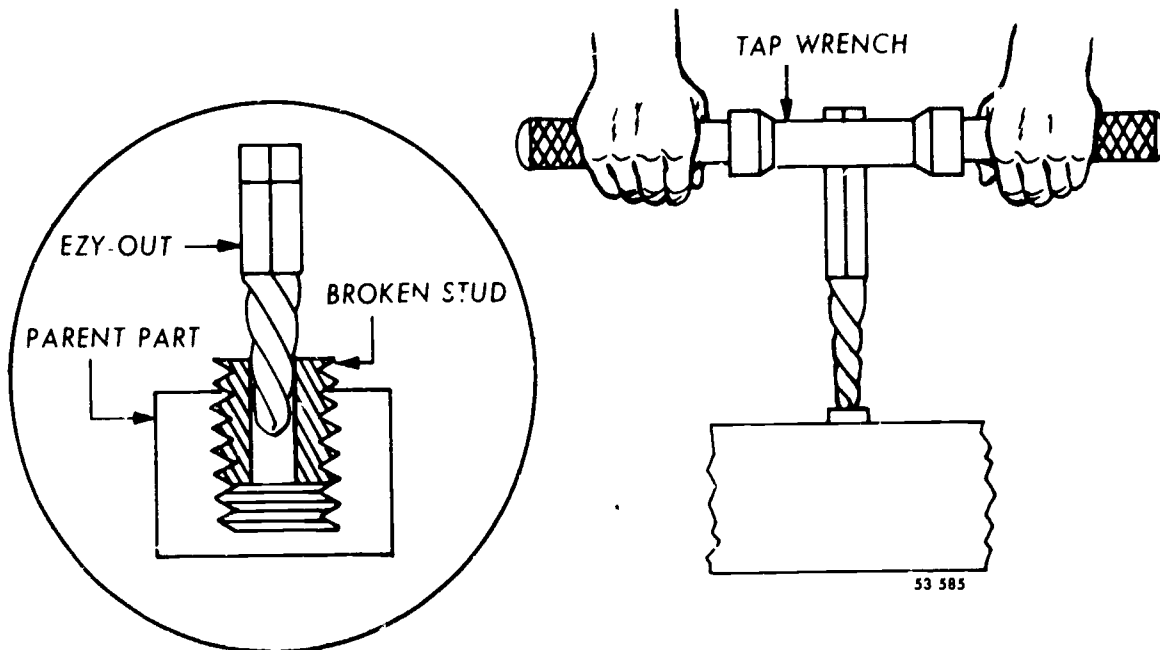

Figure 6-6. Commercial-type Ezy-Out extractor.
**Stud Extractors.** You can use extractors, such as the Ezy-Out shown in figure 6-6, to advantage to remove studs, plugs, screws or inserts without damaging the parent metal. An Ezy-Out has a square tapered body with a left-hand twist, giving it the appearance of a left-hand thread. When the Ezy-Out is inserted in the drilled hole in the stud, it tends to screw in and lock in position.